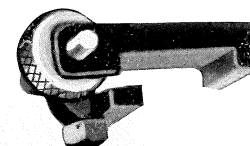

Fig. 31
**CARRIAGE STOP.** (See Fig. 31.) This stop is particularly useful for facing operations where absolute accuracy is required. Micrometer graduated. To use: Take a light truing cut on the work to be faced, set the stop against the carriage and clamp it in position. Now adjust the micrometer exactly the amount of stock it is desired to remove, run the carriage against the stop and start the cutting. Precision is assured. **Don't run carriage against stop with power feed on.**